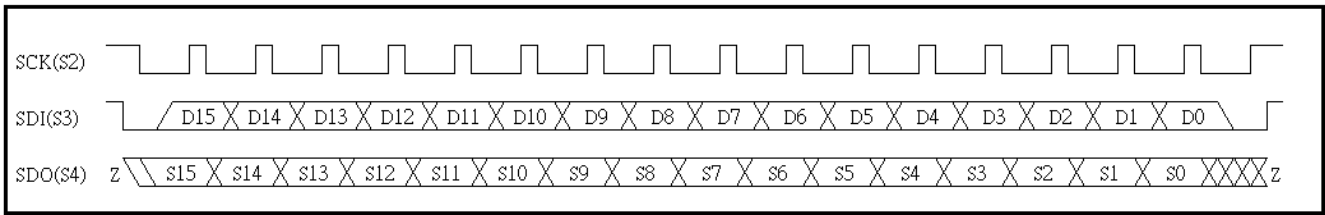

Fig. 21 I2C Data Output Command timing
- a. Command timing reference Fig. 21 I2C Data Output Command timing.